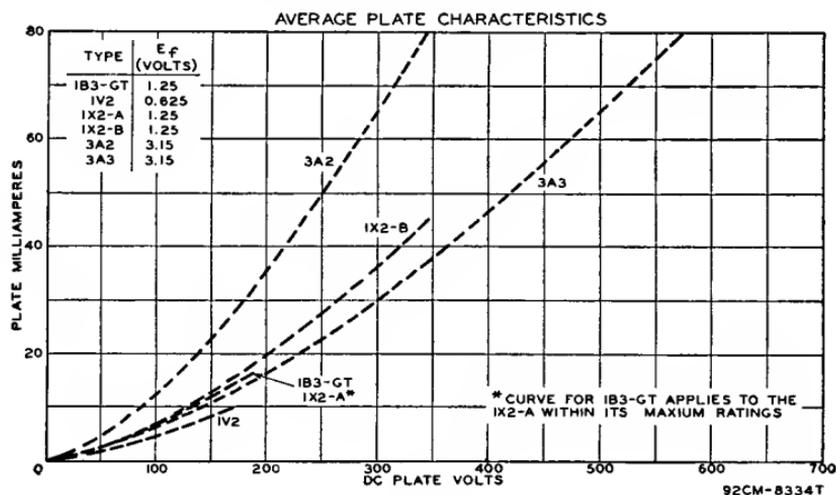

Fig. 80
**Maximum dc output current** is the highest average plate current which can be handled continuously by a rectifier tube. Its value for any rectifier tube type is based on the permissible plate dissipation of that type. Under operating conditions involving a rapidly repeating duty cycle (steady load), the average plate current may be measured with a dc meter. Curves of average plate characteristics for several half-wave vacuum rectifiers are given in Figs. 80 and 81. These curves are shown solid up to the maximum average or dc plate-current rating of each type.